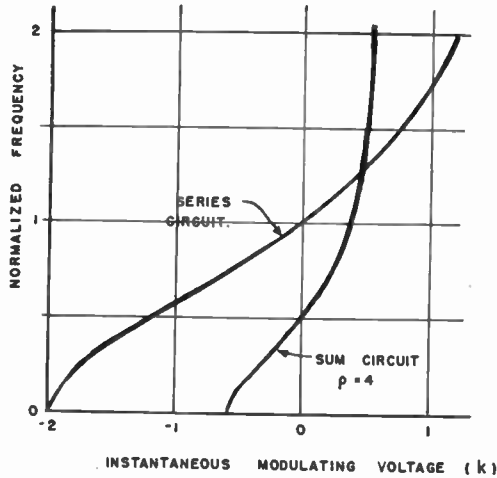

Fig. 3—Resonant frequency versus instantaneous modulating voltage (k), series and sum circuits.
Fig. 3 shows relationship between ω_r/ω_0 and k for series circuit. A point of inflection occurs when k equals -1 and $\omega_r/\omega_0 = 0.57$. Small frequency excursions about this point may be expected to be highly linear.
In this expression the factor k is so defined that $(1 - k) = k_1$, and $(1 + k) = k_2$. When $k = 0$, ω_r equals the center resonant frequency ω_0 and $\omega_0 = \omega_i \rho^{-1/2}$. A plot of (2), when $\rho = 4$, is included in Fig. 3.